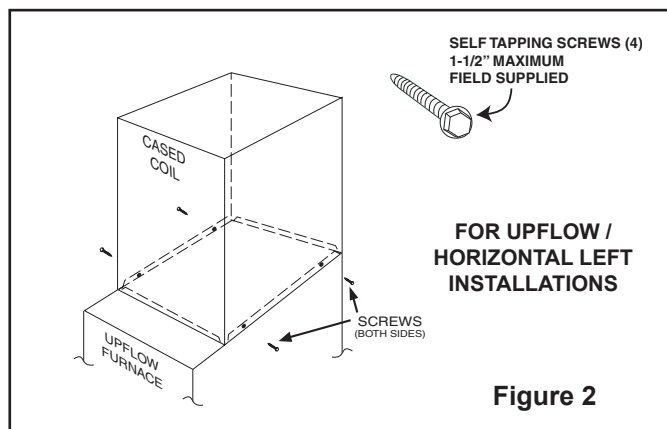

Figure 2
- Set the coil case on top of the furnace. Connect the ductwork to the coil case using field supplied screws. See Figure 2.